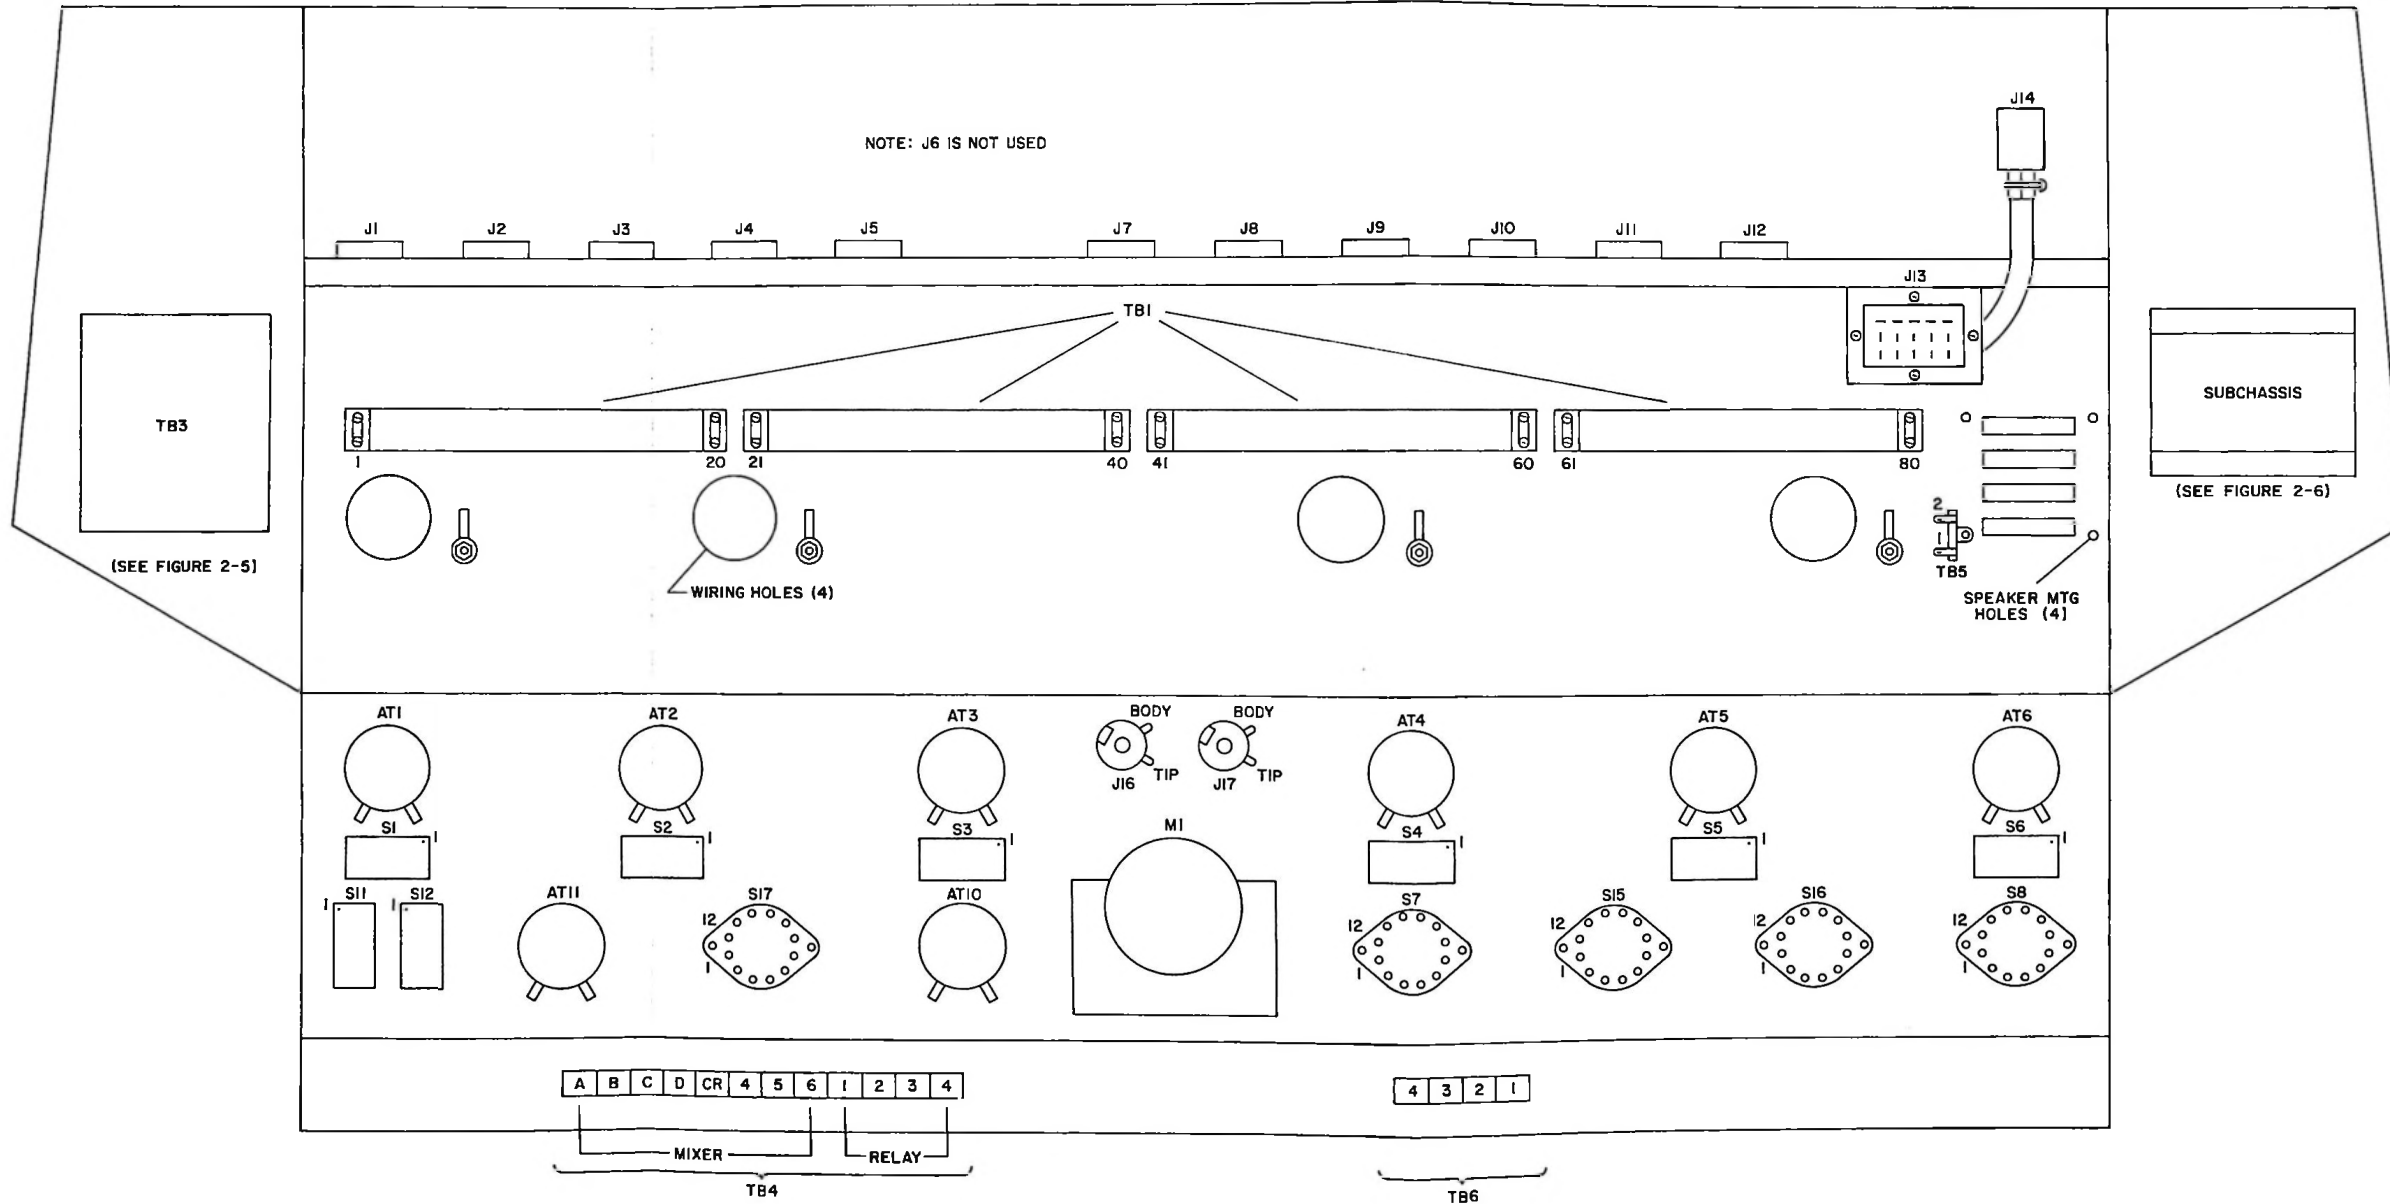

Figure 2-2. Component Location Guide
b. Insert these two rewired amplifiers into jacks J7 and J10 in the 212F-2. Refer to figure 2-2 for the location of all jacks in the console.
Refer to figure 2-2 for the location of TB4. This figure also shows the designation of the mixer inputs and relays connected to the terminals of TB4.